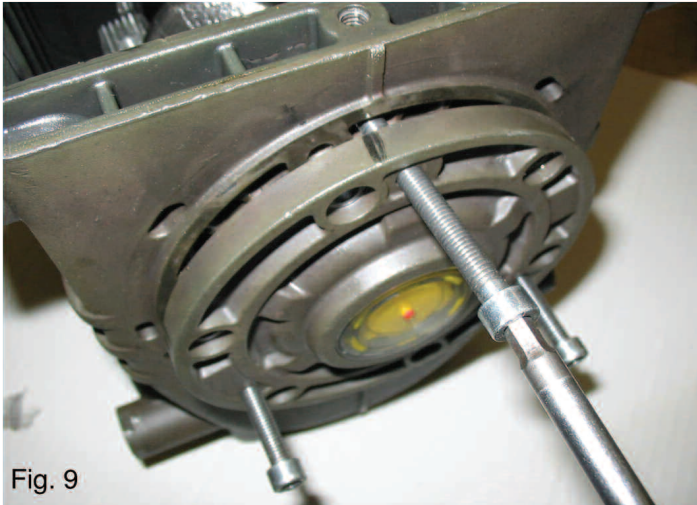

Fig. 9
- side covers. To do so, put 3 screws M6 x 50 wholly threaded into the holes drilled for that purpose. See fig 9.